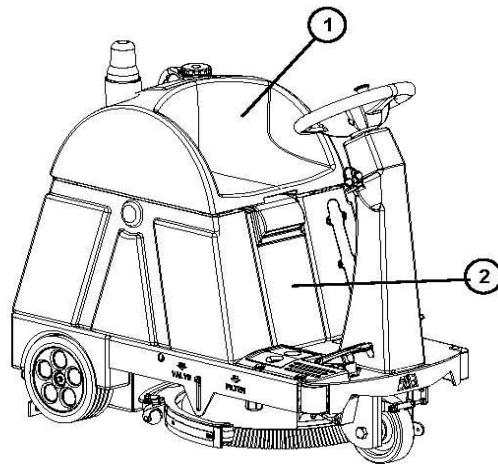

Figure 10-1
5. Lift the cover (1, **Figure 10-1**), and remove the panel (2) by lifting it up.